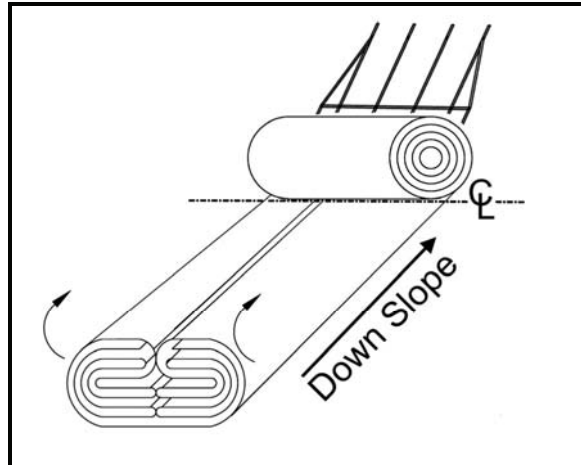

Figure 20. Berm liner half rolled.
8. Roll other end to center (Figure 20).